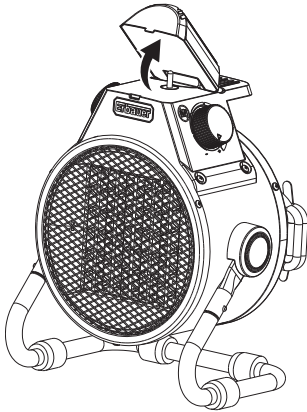

Figure 1
1. Deploy the light at maximum position, up to 90° from its closed position, the light will automatically turn on halfway with the microswitch release, like on figure 1.